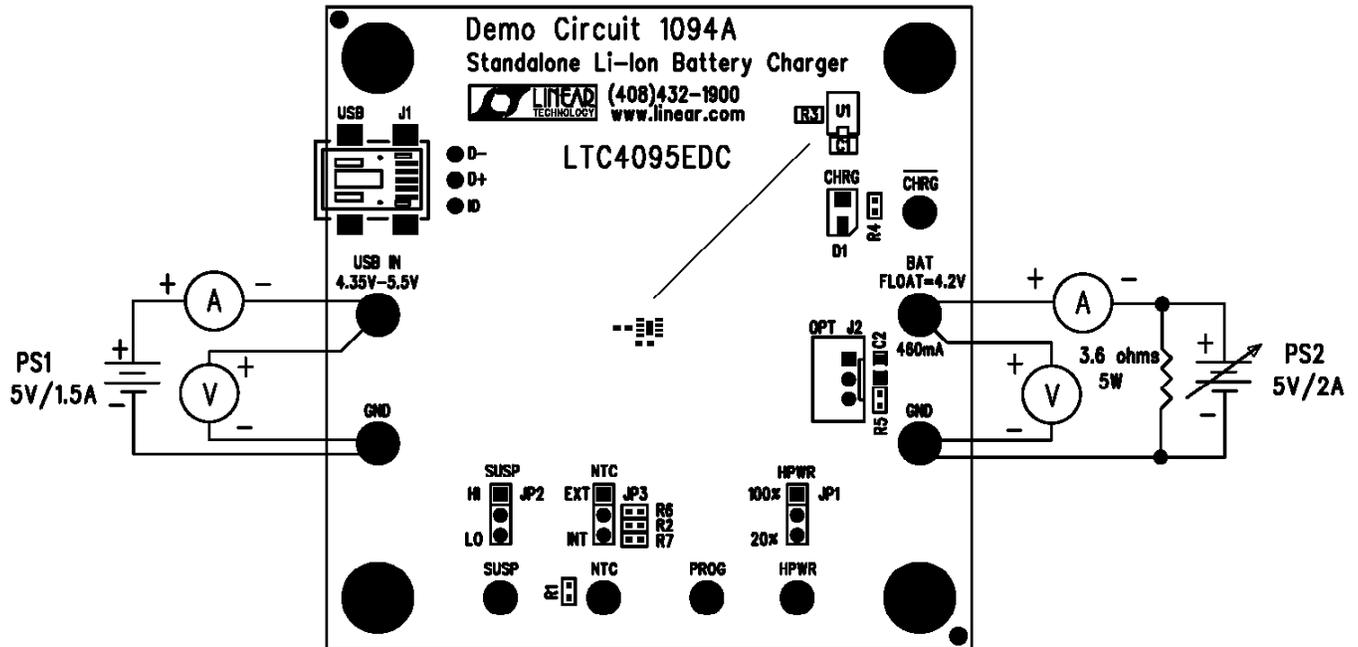

Figure 1. Proper Measurement Equipment Setup
Demonstration circuit 1094 is easy to set up to evaluate the performance of the LTC4095. The charger may be evaluated using an actual Li-Ion battery, a bi-polar supply, or a battery simulator. A battery simulator consists of an adjustable supply with a load resistor across the supply output. A  $3.6\Omega$  5W resistor value will provide an 800mA load at 2.9V. This will allow the power supply to sink and source current similar to a battery, but allows the battery voltage to be changed quickly or remain at the same value indefinitely. Refer to Figure 1 for proper measurement equipment setup and follow the procedure below:
- With the power supplies adjusted to 0V, connect the USB IN power supply and Battery or Battery Simulator with series ammeters, as illustrated in Figure 1. An ammeter or a  $100m\Omega$  current sense resistor may be used to measure the battery charge current.
- Connect voltmeters, as shown in Figure 1, across the USB IN and GND terminals, and across the BAT and GND terminals. These voltmeters may also be used to measure the voltage on the PROG terminal.